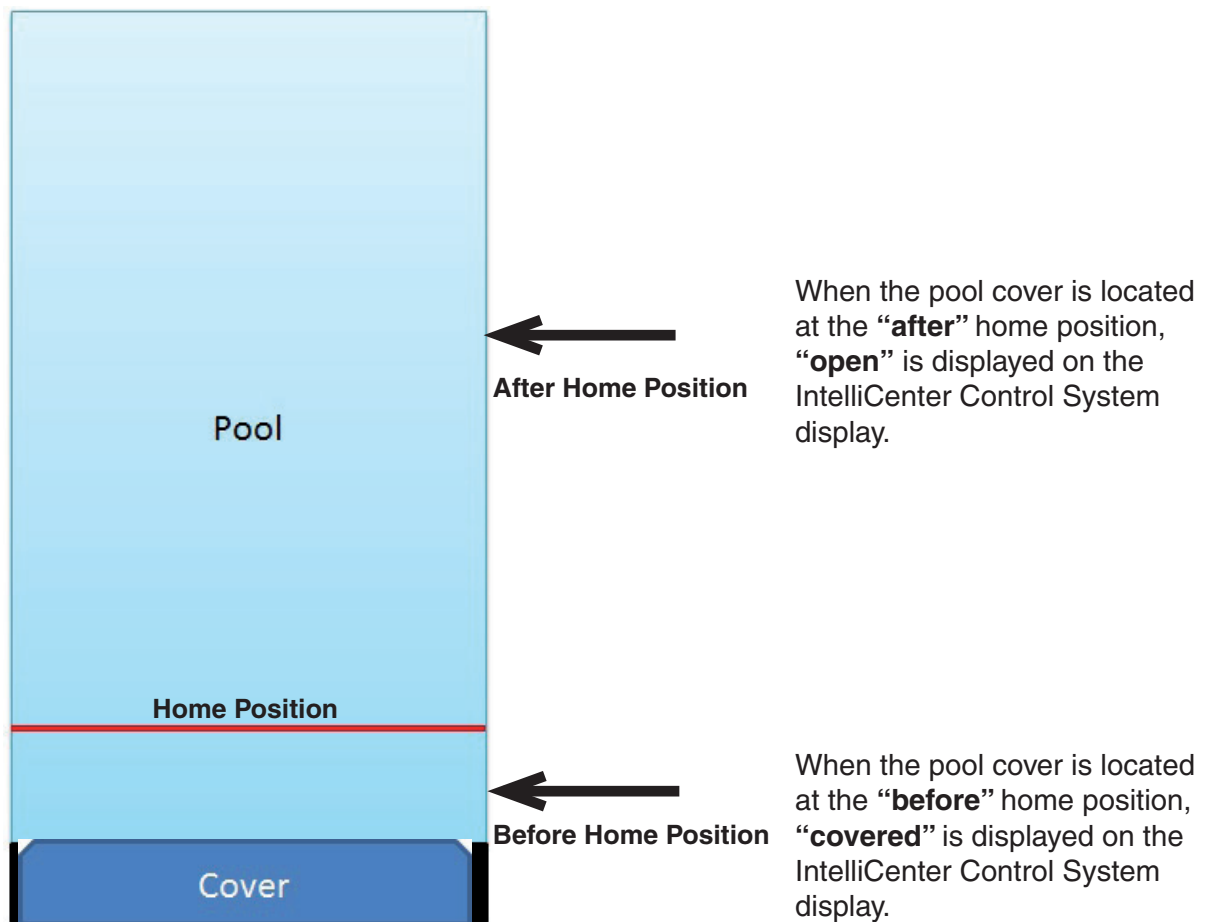

Figure 6. Pool Cover Before and After Operating Modes
- The pool cover has two operating mode, OPEN and COVERED which are displayed on the IntelliCenter Control System display. See Figure 6.